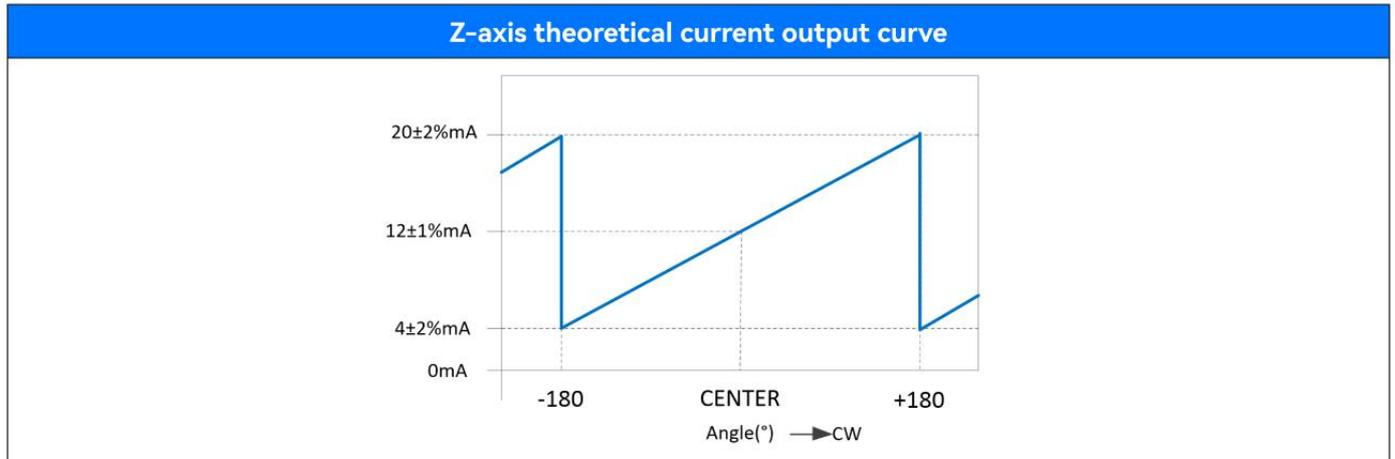

Figure 2.2
- (1) The scale range is 180~0~180, the background color is black, the scale line, the number is white, the backlight is adjustable, the brightness is adjusted by the circuit board knob;
- (2) Constant operating torque, adjustable rotating torque and caton point feel, good feel;
- (3) Output mode: 4~20mA current output, linear relationship with the scale, as shown in Figure 2.2.